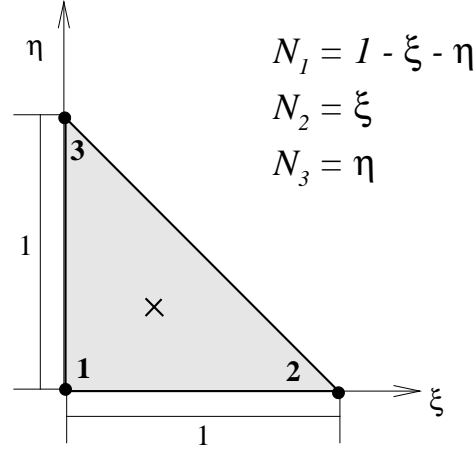

Figure 1: Parent element and shape functions used in the QC method.
- **shp(nshp,numel)**: (double precision) Shape functions. The QC method uses three-node linear elements, thus there is only one Gauss point at the centroid of each element. The isoparametric formulation is used, with the parent element, local node numbering and shape functions as shown in Fig. 1. More information on the finite element formulation can be found in, for example, [12]. For each element **i**, the following is stored in **shp**: